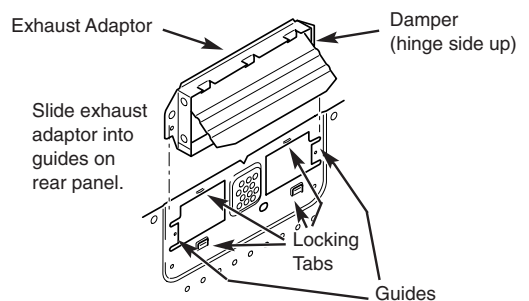

Figure 20
7. Insert the tabs on each side of the damper into the holes at the inside rear of the adaptor. Attach the exhaust adaptor to the back plate wall side. Push in securely until it is past the top locking tabs and in the lower locking tabs. Take care to assure the damper hinge is installed so that it is at the top and that the damper swings freely. See Figure 20.